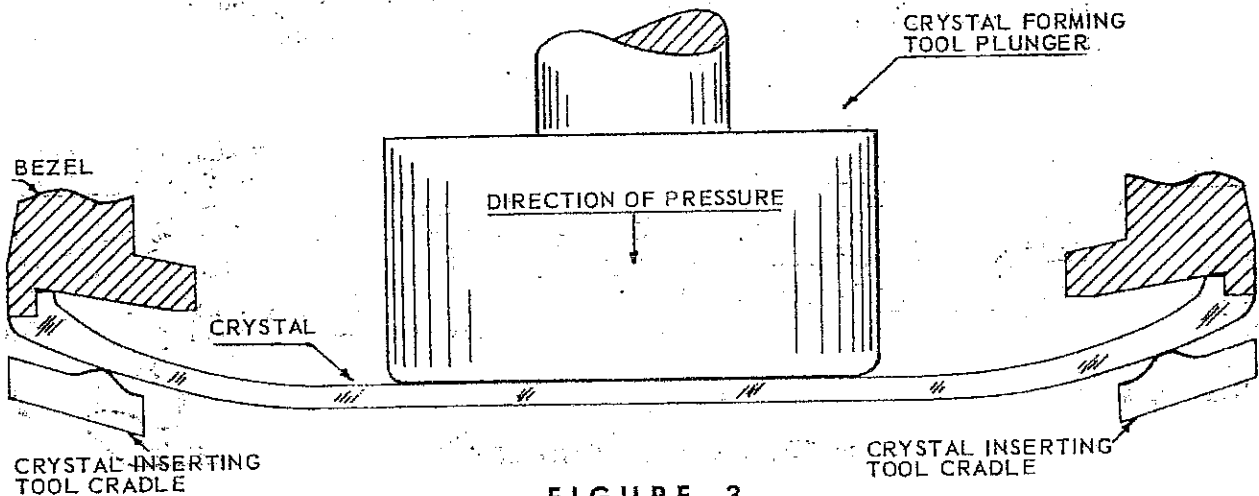

FIGURE 3
4. (a) "INSIDE" TYPE: (See Figure 3)